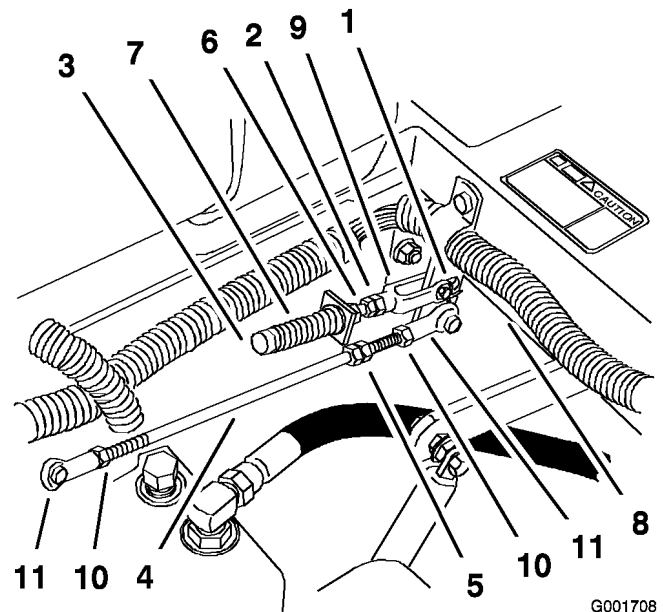

Figure 56
1. Loosen the locknuts at the ball joints on the pump control rod (Figure 56).
3. Adjust the pump rod length by rotating double nuts on rod, in the appropriate direction, until wheel is still or slightly creeps in reverse (Figure 56).
6. Tighten the locknuts at the ball joints (Figure 56).